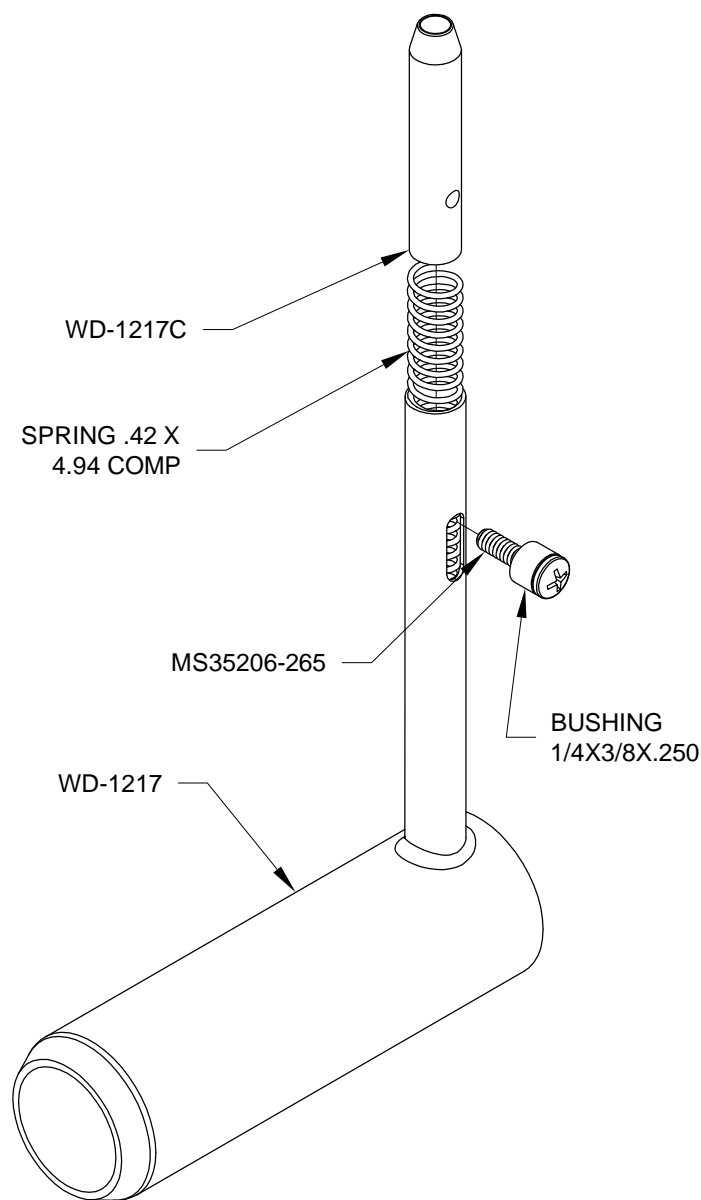

FIGURE 3: FUSELAGE PIN ASSEMBLY (RIGHT SHOWN)
Step 5: Install the SPRING .42 X 4.94 COMP and WD-1217C Fuselage Pin Stopper into the WD-1217 Fuselage Pin. Apply a small amount of Loctite #242 (or equivalent non-permanent thread lock) to the screw threads and insert the screw as shown in Figure 3. When properly installed the fuselage pin stopper can be moved up and down by applying pressure to the screw on the side of the fuselage pin assembly.